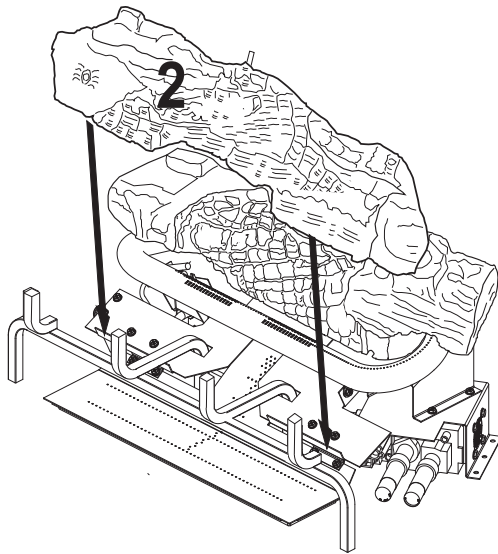

Figure 22 - Installing Log #2
2. Place the middle log (#2) in front of the U-burner and against the edges of the plate as shown in **Figure 22, Page 18**.